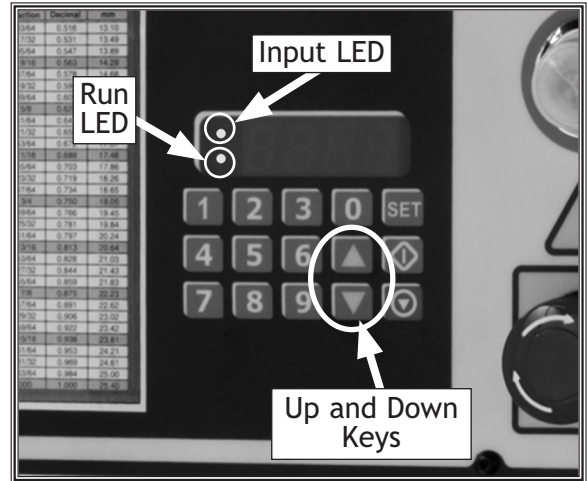

Figure 20. Digital display and keypad.
You can push the **UP** or **DOWN** arrow keys to lift or lower the table, or you can use the automated function of auto height adjustment (**Page 27**) for your next sanding pass. All functions are controlled through the key pad and are presented on the digital display (see **Figure 20**).
6. Type in the thickness of your workpiece using the numeric key pad (Example: for a 2" thick workpiece type 2.000"), and press the table start key. **Note:** *The upper left corner Input LED will illuminate (See Figure 20), and the display numbers will flash when entering measurements.*